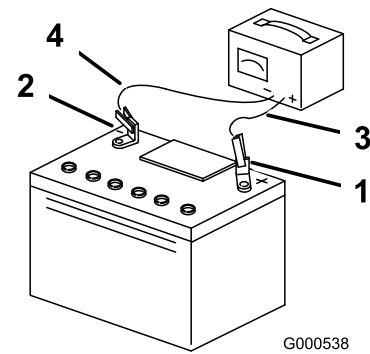

Figure 33
3. When the battery is fully charged, unplug the charger from the electrical outlet, then disconnect the charger leads from the battery posts (Figure 33).